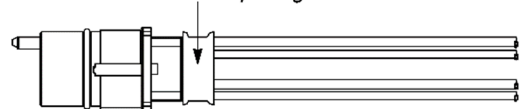

Figure 12
7. Apply a small amount of the Loctite 480 instant adhesive to the strength members at the front of the knurled end of the crimp base. Then apply the accelerator over the instant adhesive to quickly cure the surface of the instant adhesive. The accelerator will turn the surface of the instant adhesive white. See Figure 12, Detail A.
8. Using the shears, trim the strength members as short as possible. See Figure 12, Detail B.
9. Using the syringe (from the epoxy applicator kit), inject a small amount of the Loctite 480 instant adhesive onto the surface of the crimp base where the cables exit (refer to Figure 12, Detail C) and into each channel cavity of the crimp base (refer to Figure 12, Detail D). Then apply the accelerator over the instant adhesive to quickly cure the surface of the instant adhesive. The accelerator will turn the surface of the instant adhesive white.
10. Using the small file, remove any burrs (resulting from the crimping operation) from the surface of the crimp ring. Then using the abrasive cloth (or pad), rub the crimp ring until the crimp ring is smooth. Refer to Figure 12, Detail E. Also, make sure that no strength member nor adhesive protrudes above the crimp ring.